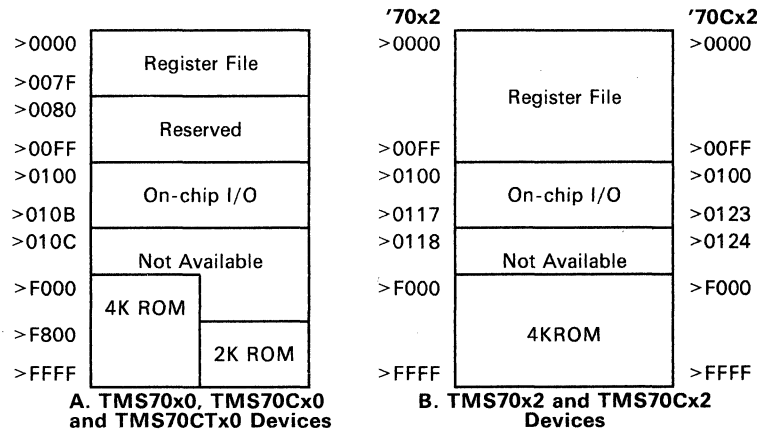

Figure 3-6. Single-Chip Mode Memory Map
Figure 3-6 shows the Single-Chip mode memory map. The unused Peripheral File (PF) locations and off-chip memory addresses cannot be addressed. If you attempt to read one of these locations, an undefined value is returned. Writing to these addresses has no effect. Peripheral-File registers P0-P11 reference the I/O ports and other on-chip functions. Table 3-8, Table 3-9, and Table 3-10 list the Peripheral-File registers that are available in Single-Chip mode.